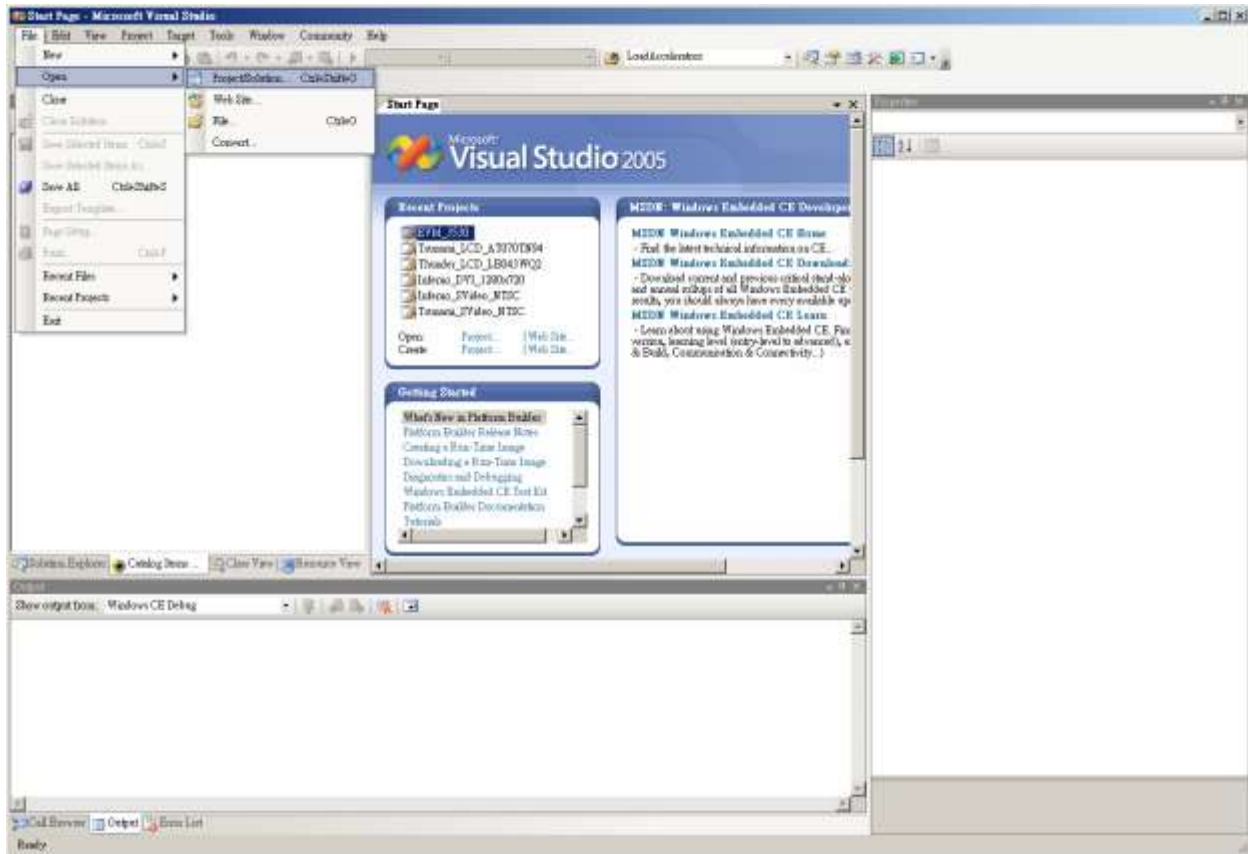

Figure 74
- Click “File → Open → Project Solution” (See Figure 74)